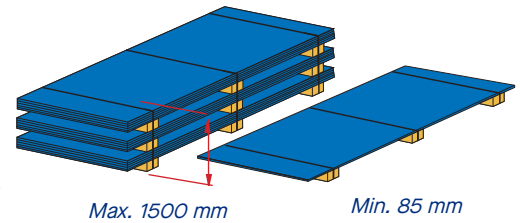

Fig.2.1: TRU-SPEC® steel packs are covered with a low friction plastic paper.
- ✓ Product stacks are to be a minimum of 85 mm and a maximum of 1500 mm above the vehicle deck. (Fig.2.1)